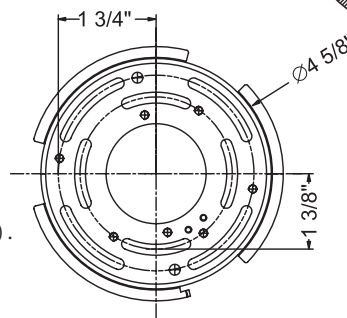

Fig.5
3. Remove the mounting screw (C) from the fixture.
5. The lamp can switch between four color temperatures (2700k-3000k-3500k-4000K), which can be adjusted to your preference with the switch in the fixture(Fig.5).